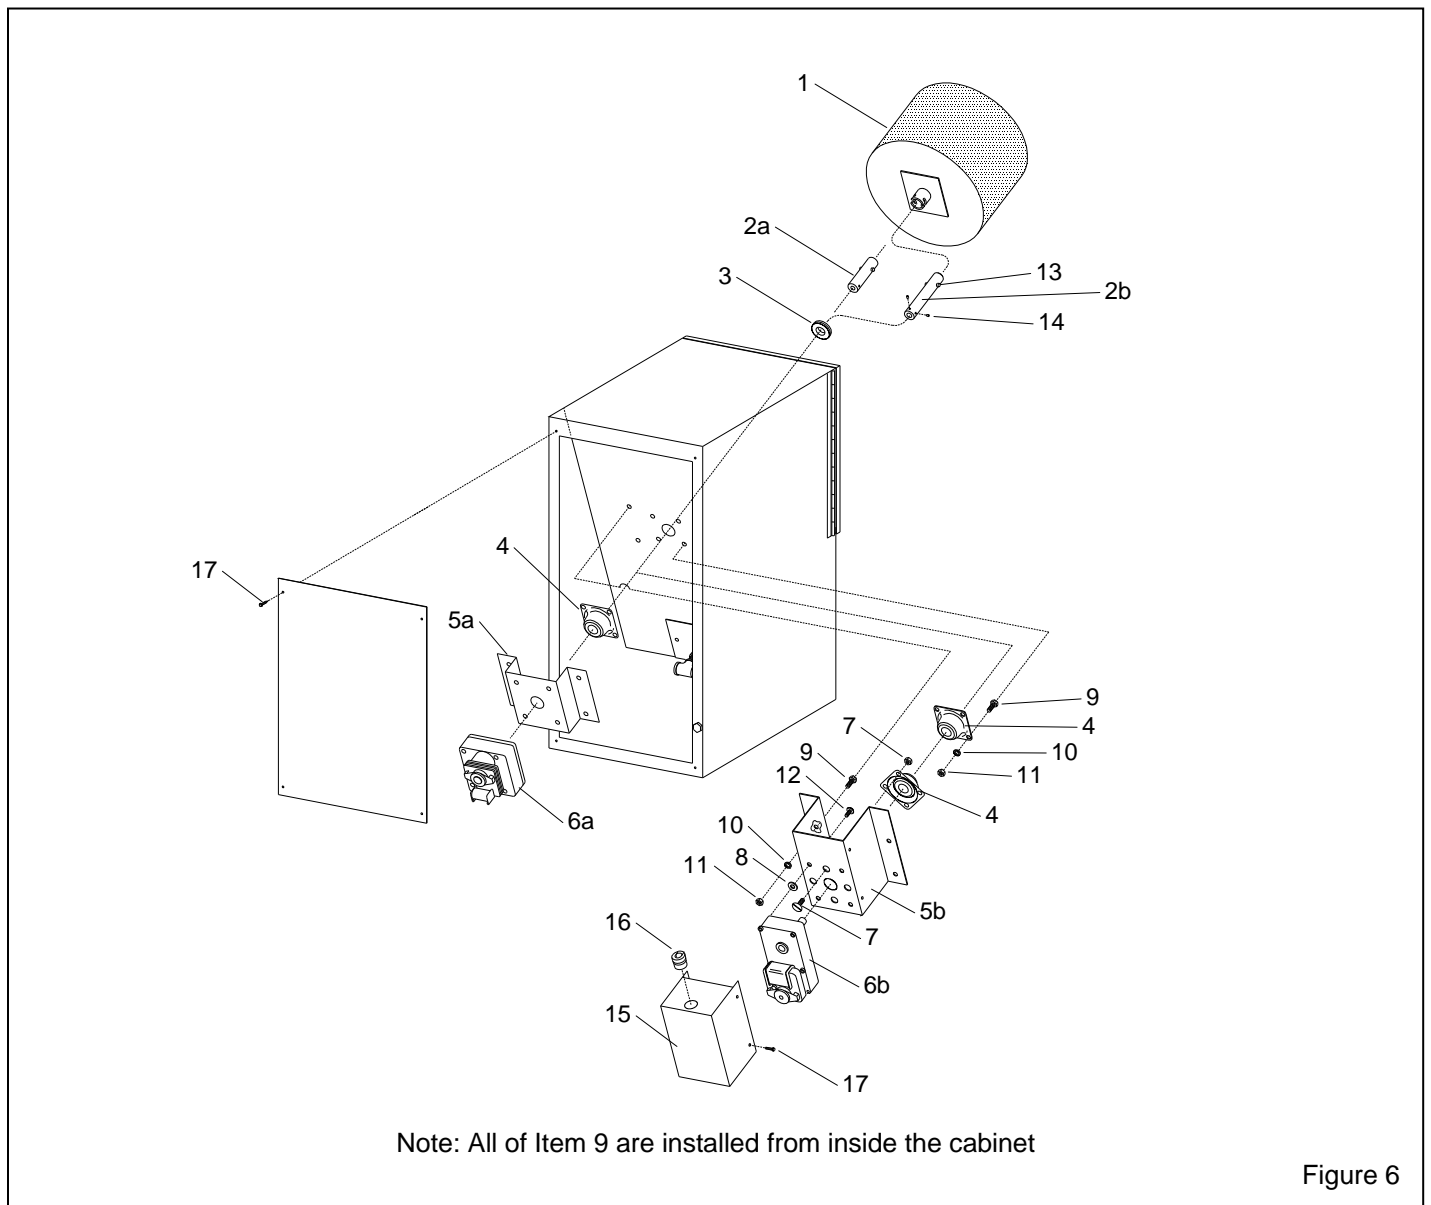

Figure 6
6.10.2 Air jet washer (Fig. 6 item 5) not tightly sealed against air jet. Tighten the bushing into the gun body.
7.3 Basket and Drive Assembly, Figure 6